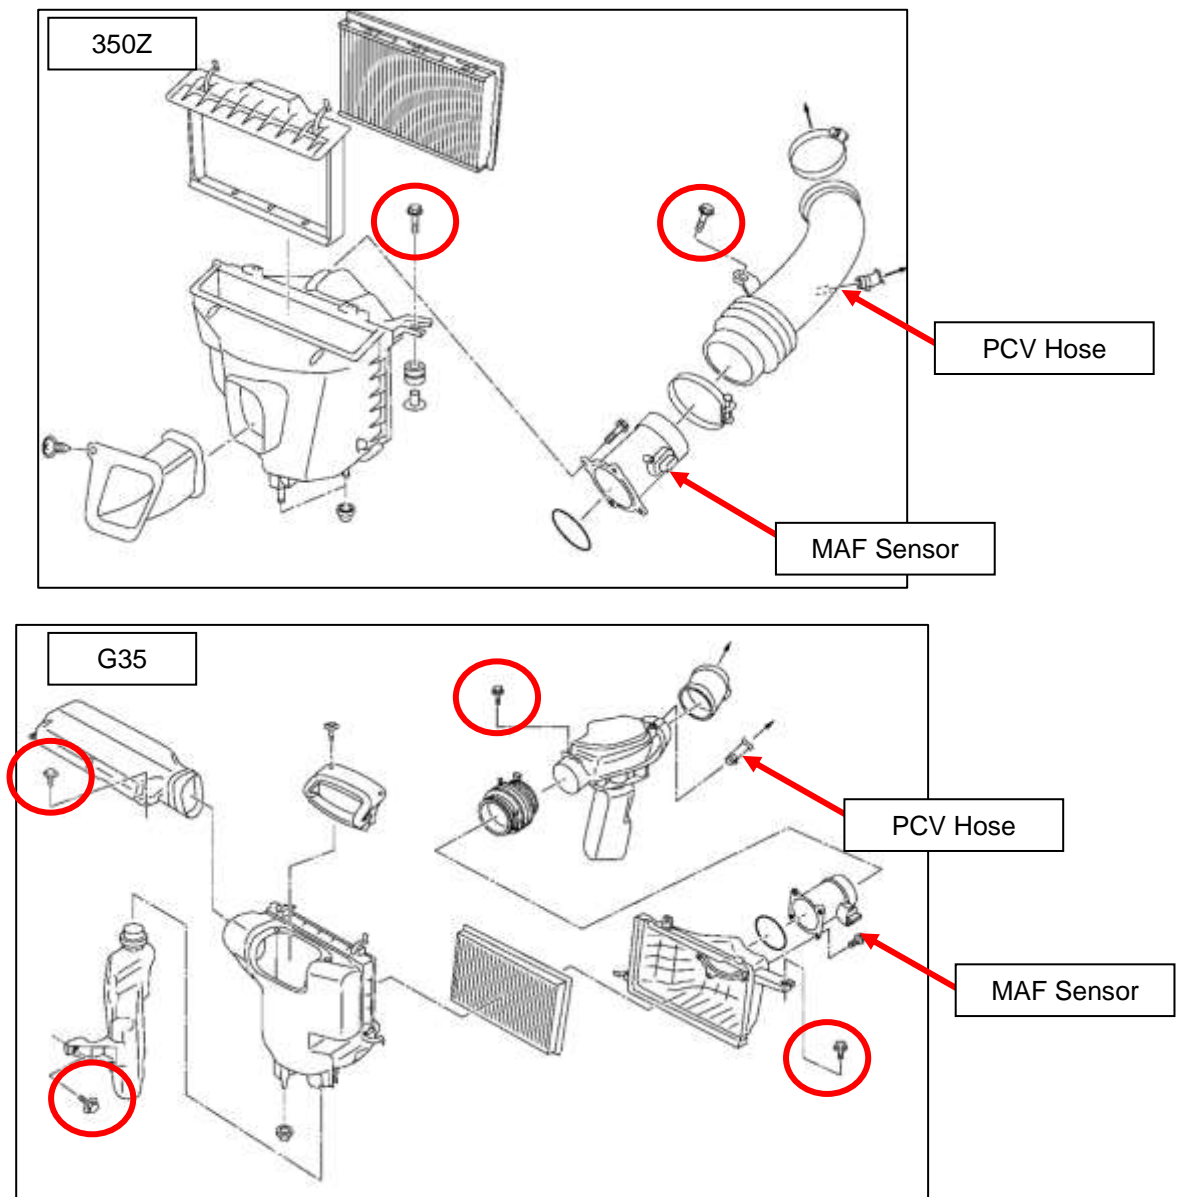

Figure 6
14. Remove the (8) eight bolts that secure the Strut Tower Brace to the chassis if your vehicle is equipped with one.
16. Disconnect and remove the OE Air Intake from the Vehicle. 350Z and G35 Models will vary slightly. *Figure 6.*